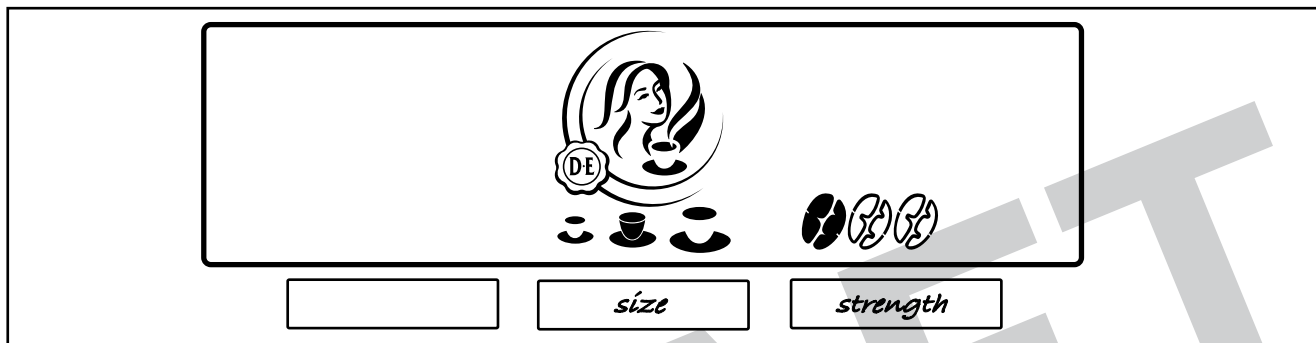

Fig. 29
2. Press the preselection button «STRENGTH». Three bean icons are displayed (fig 29).
2. Press the preselection button «SIZE». Three cup icons are displayed (fig. 29).